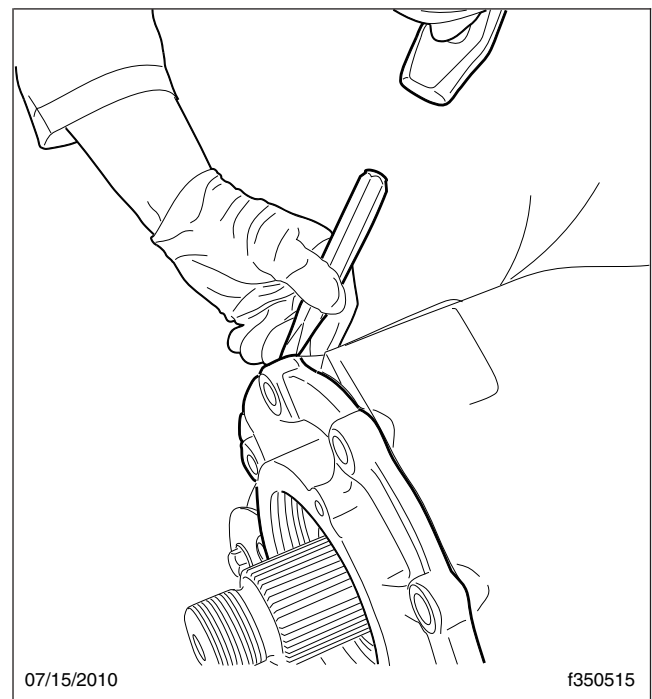

Fig. 2, Tapping the Bearing Cage Loose
11. Remove the bearing cage capscrews from the bearing cage, and pry the bearing cage from the carrier housing. It may help to tap the bearing cage loose with a chisel; see Fig. 2.